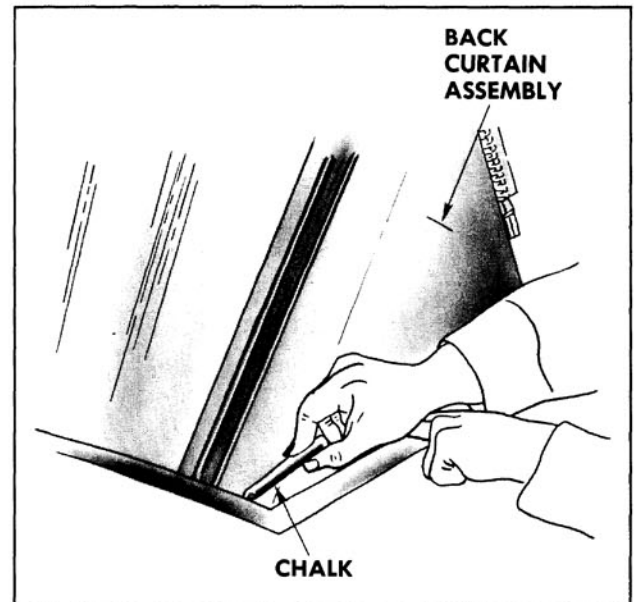

Fig. 16-446 Marking Back Curtain
17. Where required, place reference chalk mark on outer surface of back curtain along pinchweld finishing molding. Re-adjust back curtain assembly as required. (Fig. 16-446)